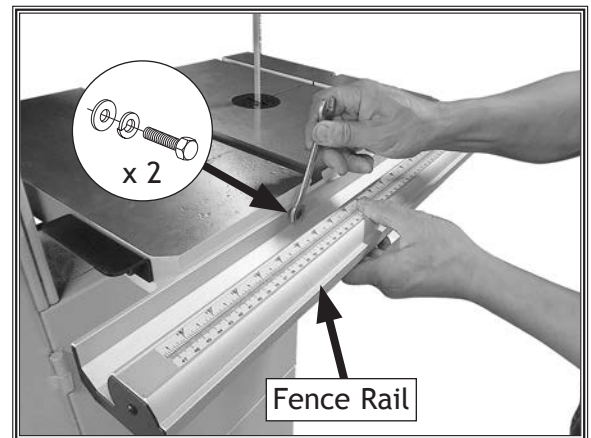

Figure 25. Installing fence rail.
9. Install fence rail using (2) M6-1 x 20 hex bolts, (2) 6mm flat washers, and (2) 6mm lock washers (see Figure 25).